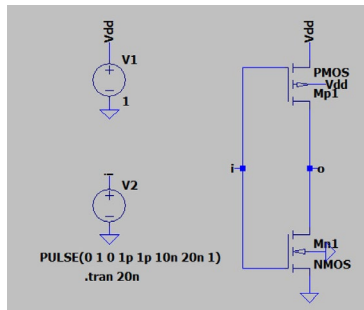

Fig.1a
- CMOS inverter, as shown in Fig.1a using the nmos4 and pmos4 ideal parts: